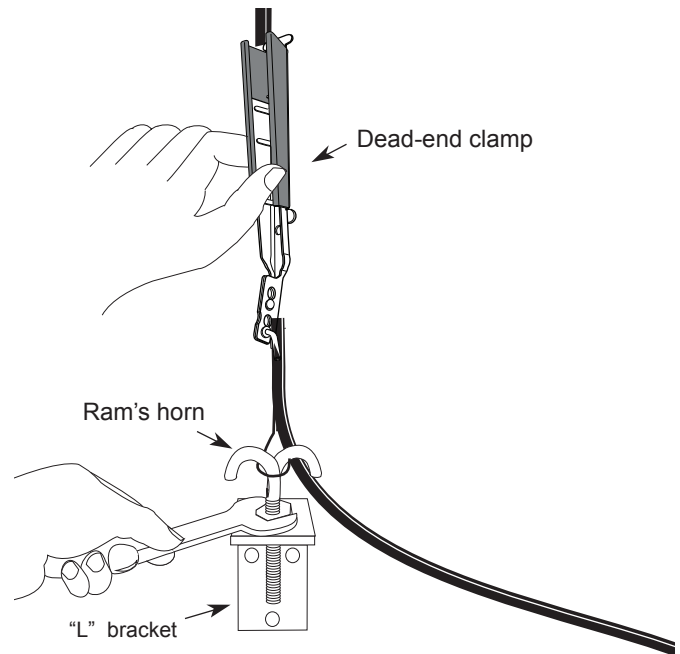

Figure 10
5.13 At ground level, secure the cable to the base of the wall using the ram's horn/eye bolt and dead-end clamp combination (Figure 10). Tension the cable to approximately 50 lb_f by tightening roughly one inch of the bolt.